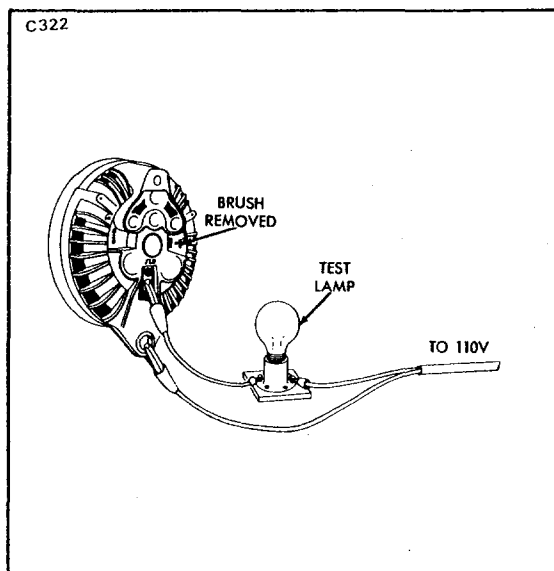

Figure 11-20 Testing Field Circuit
a. Remove the ground brush and using a 110-volt test lamp, place one test probe to a machined surface at one of the alternator end shields. (Refer to Figure 11-20.) The test lamp should not light.